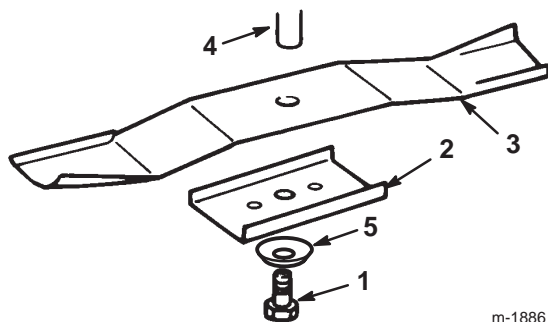

Figure 34
3. Remove the bolt (5/8 in. wrench), curved washer, retainer, and blade (Fig. 34). Use a block of wood as a wedge between the blade and the mower to lock the blade when you are removing the bolt.
1. Install each blade, blade retainer, curved washer (cupped side toward blade), and the blade bolt (Fig. 34).